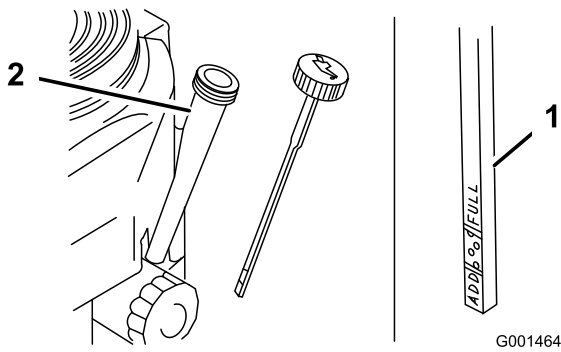

Figure 32
4. Clean around the oil dipstick (Figure 32) so that dirt cannot fall into the filler hole and damage the engine.
5. Unscrew the oil dipstick and wipe the end clean (Figure 32).
6. Slide the oil dipstick fully into the filler tube, but do not thread onto tube (Figure 32).
9. Slowly pour approximately 80% of the specified oil into the filler tube (Figure 32).